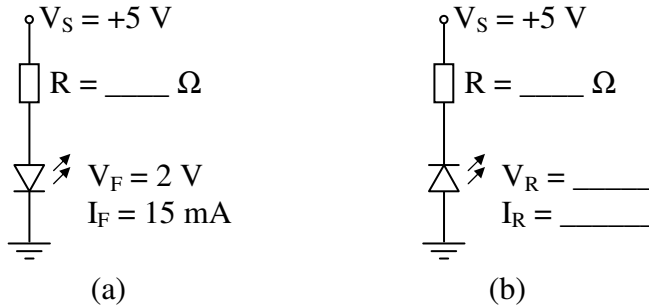

Fig. 5.6 Calculating R and LED operation:
2. From the three resistors given in this experiment, select the one whose value is nearest the calculation found in step 1. Write the value of this resistor in the spaces provided in Fig. 5.6.